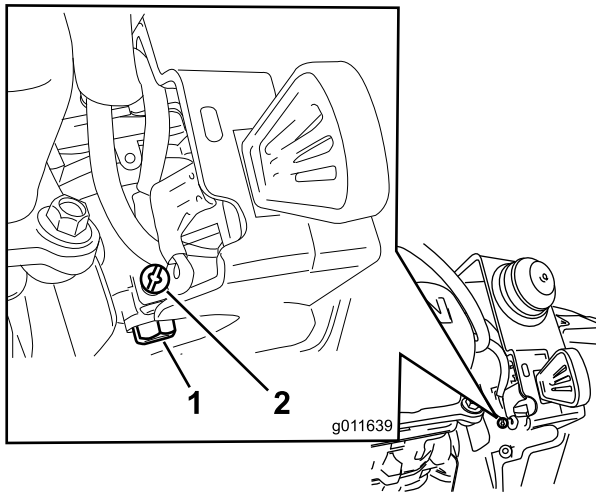

Figure 35
- Unscrew, but do not remove, the small screw on the side of the carburetor fuel bowl (Figure 35) until the fuel begins to drain from the carburetor. Drain the fuel into an approved fuel container.